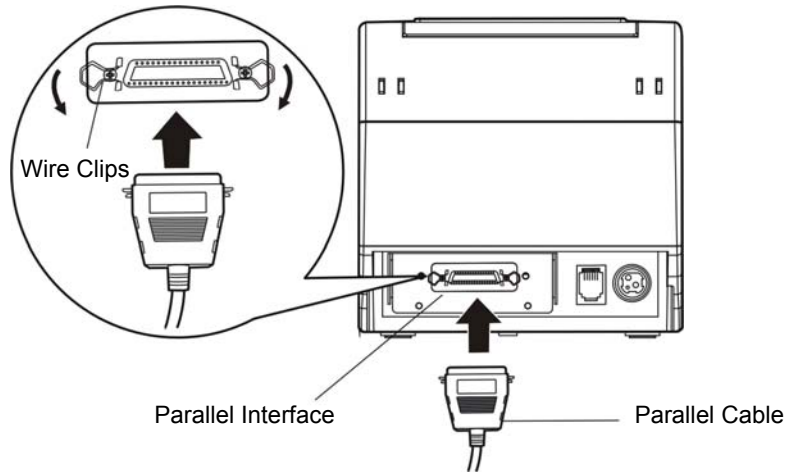

Figure 2-3 Connecting the parallel cable
1. Make sure the computer and the printer are both turned off, connect the parallel cable to the connector of the printer, and then fasten the wire clips as shown in Figure 2-3.